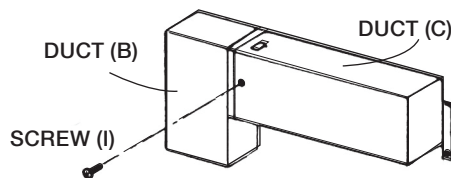

Figure 2
- A. Insert the edge of DUCT (B) into the hold lip of DUCT (C). Secure together by using a SCREW (I) provided in the kit. See Figure 2.